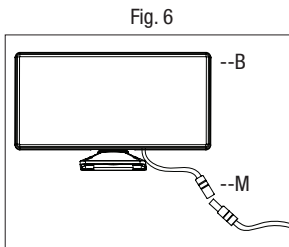

Fig. 7
Using the 4 of the mounting screws provided(J), attach the lighting system directly to a wall or ceiling using the attachment points located in the corners (Fig. 7). If anchors(K) are required, i.e. for drywall installation, use a 3/16" drill bit to create pilot holes and set the anchors in place with a hammer.